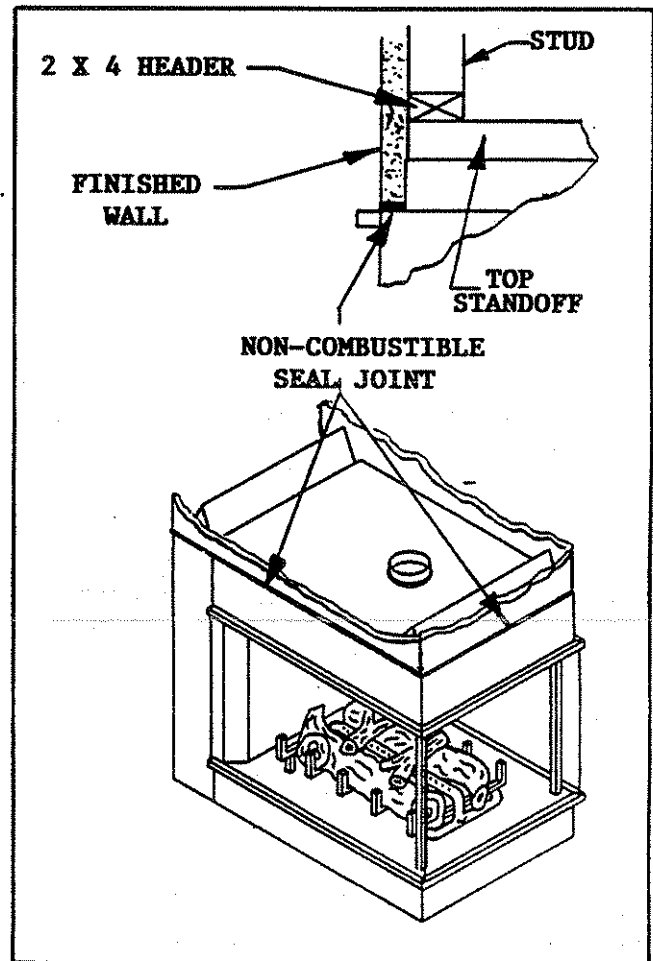

FIGURE 12
**CAUTION: ALL JOINTS BETWEEN THE FINISHED WALL AND THE FIREPLACE SURROUND (TOP AND SIDES) CAN ONLY BE SEALED WITH NON-COMBUSTIBLE MATERIAL. ONLY NON-COMBUSTIBLE MATERIAL CAN BE APPLIED AS FACING TO THE FIREPLACE SURROUND. SEE FIGURE 12.**